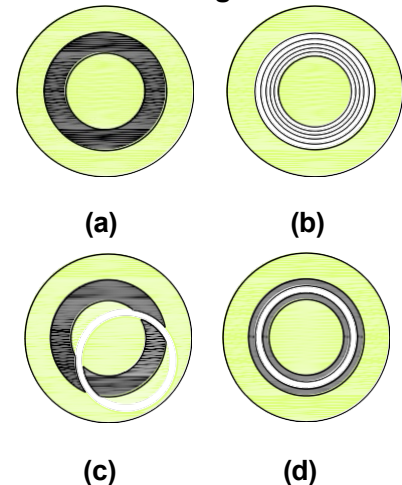

Fig.17
- b. Observe from the telescope. The bright ring and dark ring should be coincided with each other as shown in **Fig.17 (d)**.
- d. If the bright ring is still obscure as in **Fig.17 (b)**, adjust the condenser focus knob.
- e. If the two ring images are not coincided as shown in **Fig.17 (c)**: